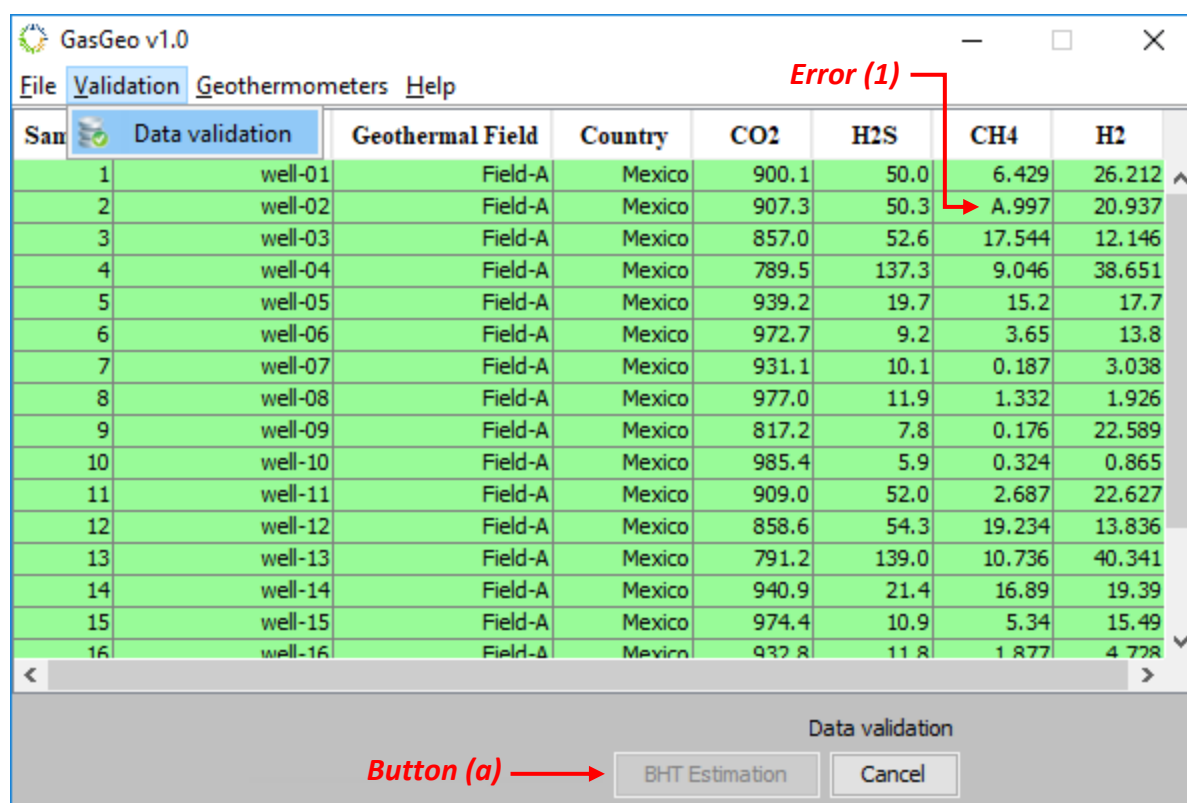

Fig. 5 Example with values of a geothermal field of Mexico displaying in GasGeo program
**Menu Validation.** This menu is enabled once a data file (xlsx) has been selected, which are displayed in the GasGeo program (Fig. 5).
As shown in Fig 5, the “Button (a)” is disabled, since data validation is required to avoid typographical errors. For example, in the same figure, the “Error (1)” exists since the chemical composition of all gases (in this case methane CH4) must be a real number. This is the primary function of the validation menu, detecting and correcting typographical errors